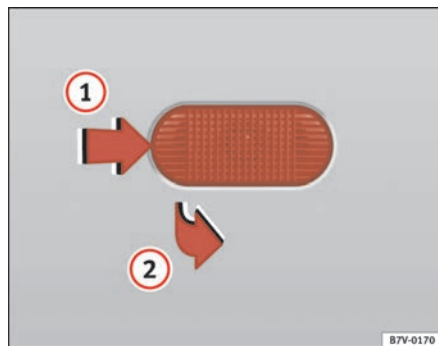

Fig. 163 Side indicator
- Slide the turn signal forwards ① ⇒ fig. 163 and remove ②.